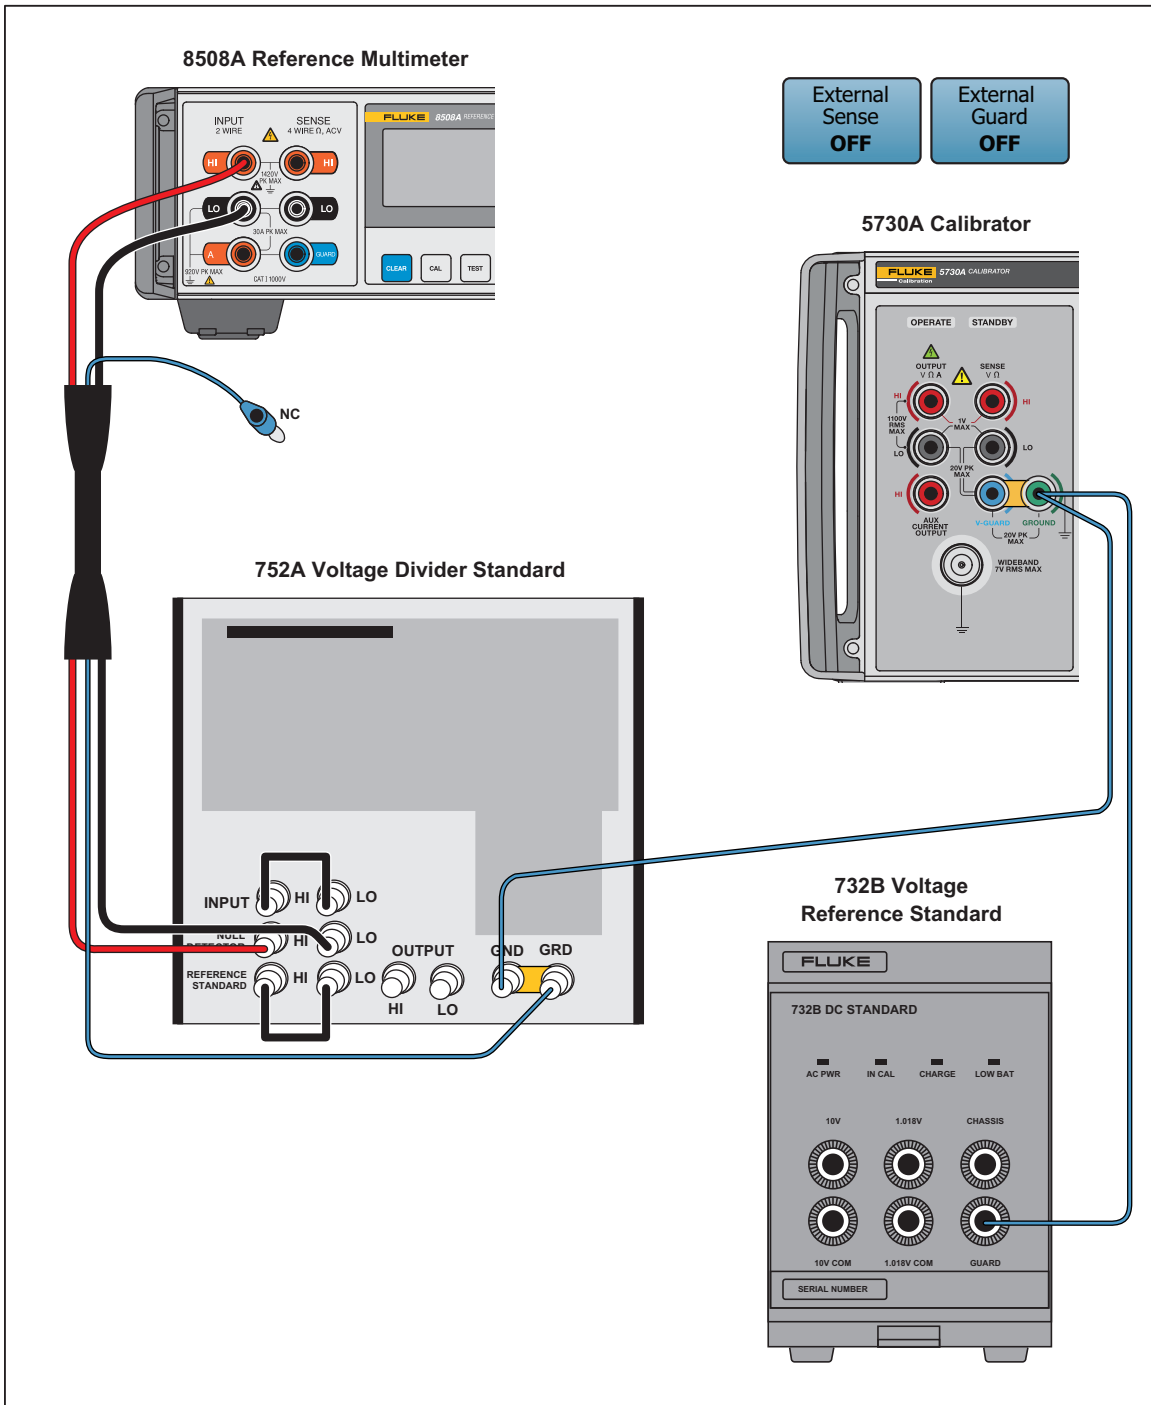

Figure 10. Zero Null Detector Connections
2. Connect the reference divider and the 8508A as shown in Figure 10. The short on the INPUT and REFERENCE STANDARD inputs of the reference divider must be a low thermal EMF connection. A piece of copper wire is recommended for this.